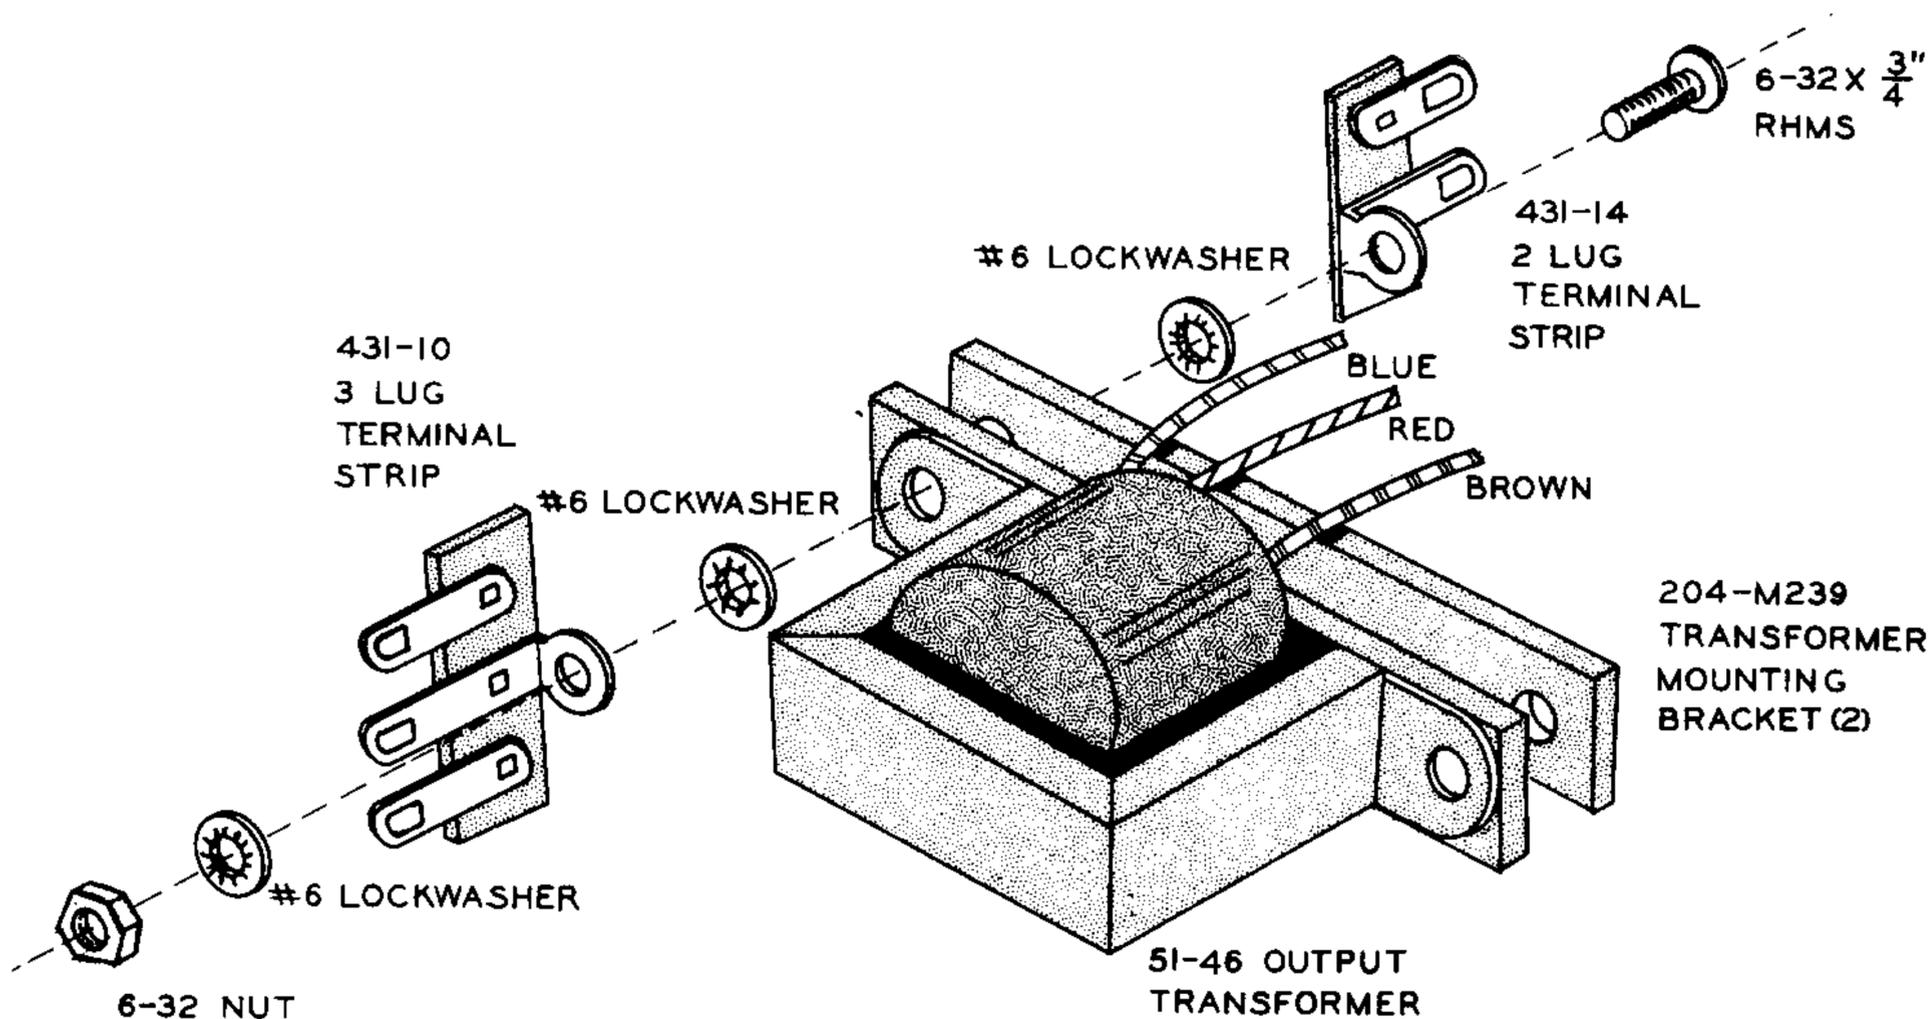

Figure 4
- ( ) See Figure 4 and assemble the associated parts; insert a 6-32 x 3/4" RHMS through a 2-lug terminal strip, a #6 lockwasher, the two mounting brackets, the mounting foot of the transformer (3 leads facing up), a #6 lockwasher, a 3-lug terminal strip, another #6 lockwasher, and finally, a 6-32 nut which is screwed on only enough to hold these parts together for the time being.